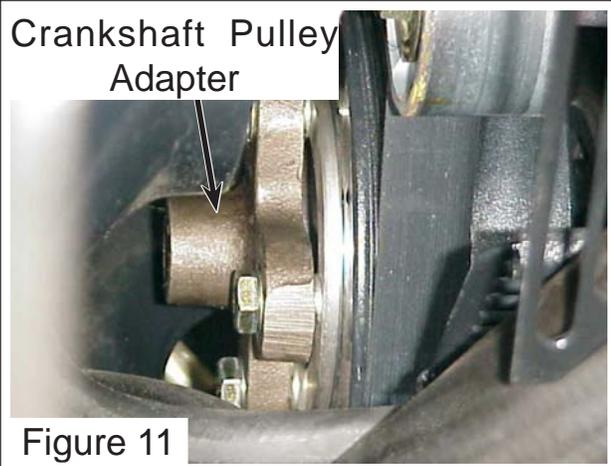

Figure 11
2. Crankshaft pulley adapter. The crankshaft pulley will have a pulley adapter bolted to it. This adapter will have a splined center that the driveshaft will slide into. If the pulley adapter is to be removed or replace, make certain that the bolts and washers that are removed are replaced with the same length as the old ones. If longer bolts are used the crankshaft pulley as well as the tractor engine will be damaged. Do not modify this adapter unless instructed to do so by alamo industrial. (See Figure 11)